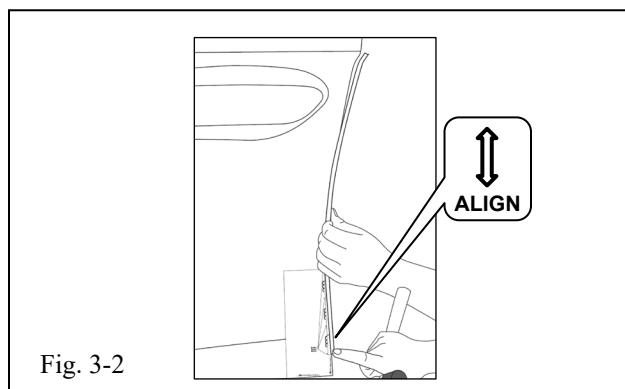

Fig. 3-2
(1) Tape template to door and align (Fig 3-2).